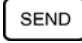

FIGURE 1-7—The VIRTUAL KEYBOARD is shown here.
FIGURE 1-6—Pressing  activates the FILE CREATION FUNCTION. Here, the user completes the first step in the file creation process by specifying the file type. (In this case, the LINEAR file type has been selected.) The user then defines various file features called ITEMS. The second display, which appears during the file creation process, allows the user to specify the File Name (as shown in Figure 1-7) and maximum and minimum acceptable material thicknesses. In Section 5.3.2, you'll learn how to use this screen to insert various descriptions into the file header (specifying the probe serial number, for instance).
- To input the file name, the item FILE NAME must be highlighted, which automatically accesses the VIRTUAL KEYBOARD (Figure 1-7). You'll use this keyboard to enter file names (each up to 32 characters in length). This is also how you'll enter comments or notes into the DMS 2.